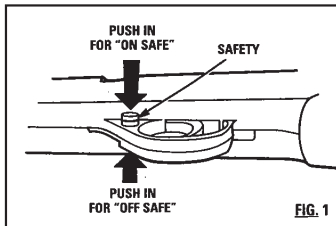

FIG. 1
- Push the safety from the left side all the way in (Fig. 1). The safety is not "ON SAFE" unless it is pushed all the way in and the RED ring around the safety is NOT showing. Like all mechanical devices, an airgun safety can fail. Even when the safety is "ON SAFE", you should continue to handle the airgun safely. NEVER point the airgun at anything you do not intend to shoot.